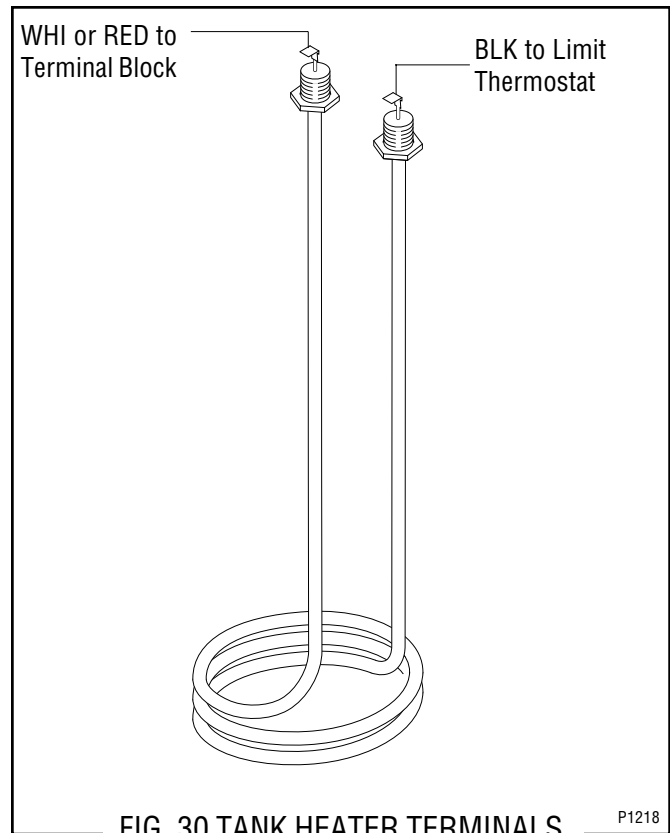

FIG. 30 TANK HEATER TERMINALS
14. Refer to Fig. 30 when reconnecting the wires to the tank heater.